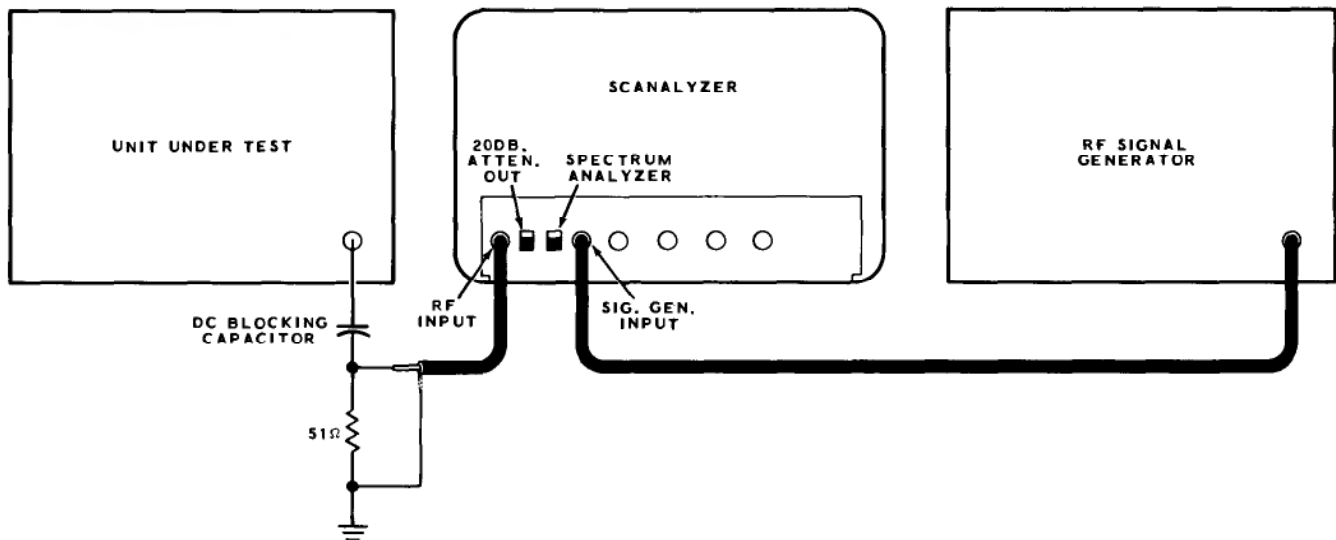
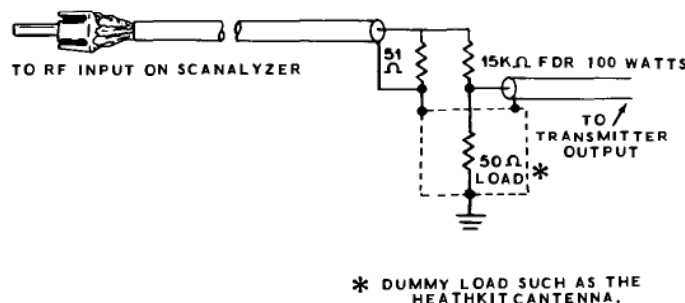

Figure 37
Figure 41
The Scanalyzer, when used as a spectrum analyzer, can be used to check such things as oscillator stages for harmonic levels, parasitics, etc.; mixer stages for signal and oscillator feed-through and mixer products; and linear amplifiers for distortion products. See Figure 37 and refer to the following instructions.
- () To display two RF signals on the screen, follow the procedure listed under the heading "The Scanalyzer As A Basic Test Instrument," and connect the test signal cables as shown in Figure 37, except that the connection between the unit under test and the Scanalyzer should be made as shown in Figure 41. **NOTE:** Be sure the two audio signals modulating the transmitter are low in harmonic content or that the two tones selected are such that their harmonics fall outside the passband of the filter in the transmitter.